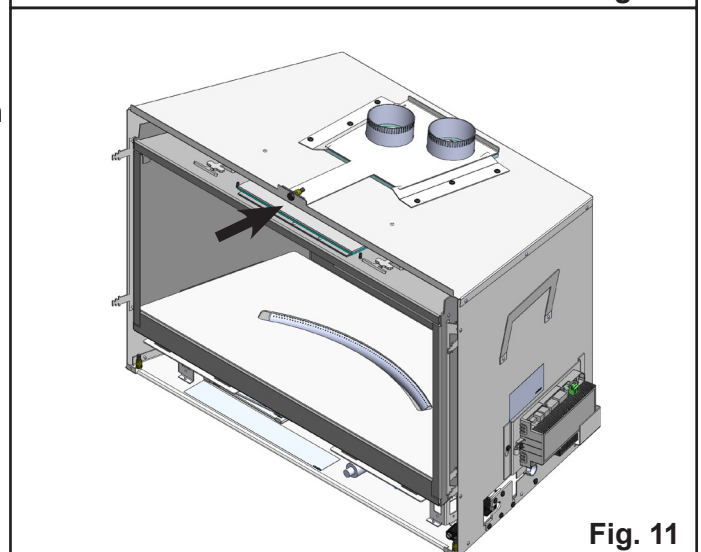

Fig. 11
5. Rethread the 1/4-20 bolt into the top of the appliance to affix the Vent Connector. (**Fig. 11**)